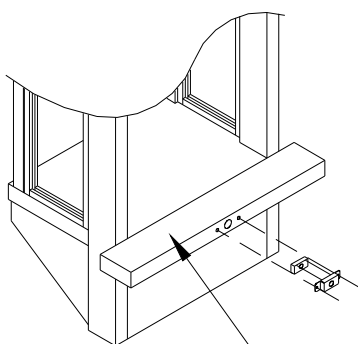

FIGURE 8
1. Mount the guide block retainer to the interior side of the wall. (Figure 8)